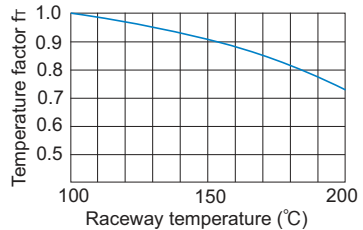

Fig.2 Temperature Factor ( $f_T$ )
- $f_T$  : Temperature factor (see Fig.2 **A11-6**)
If the temperature of the environment surrounding the operating Flat Roller exceeds 100°C, take into account the adverse effect of the high temperature and multiply the basic load ratings by the temperature factor indicated in Fig.2.